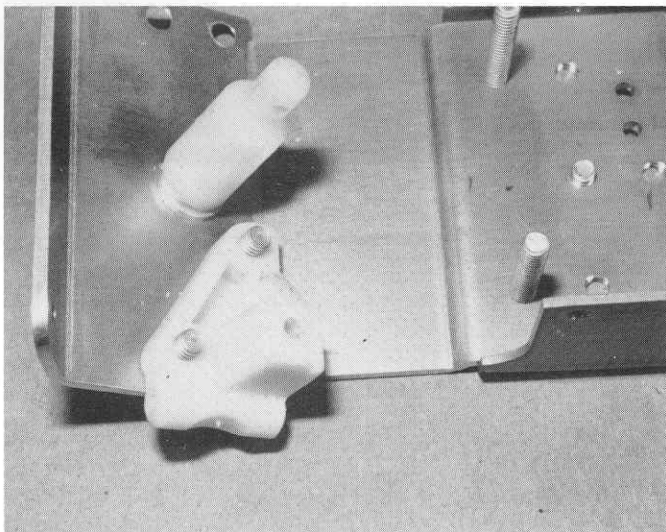

Fig. 6
□ **Fig. 6** Install the L.H. suspension mount, as shown, with the three #6280 8/32 x 1/2" FHMS Phillips screws. Now, install the right hand mount with the same type of screws.